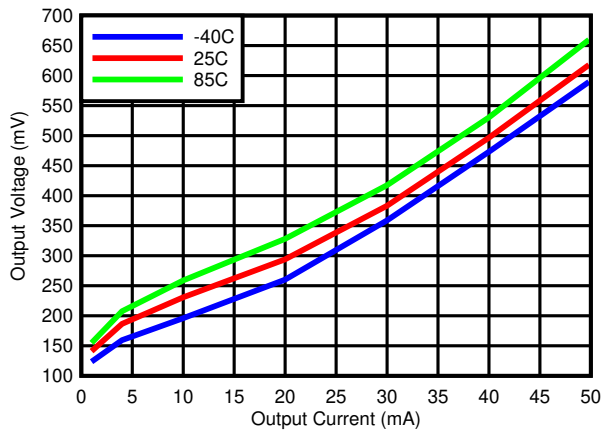
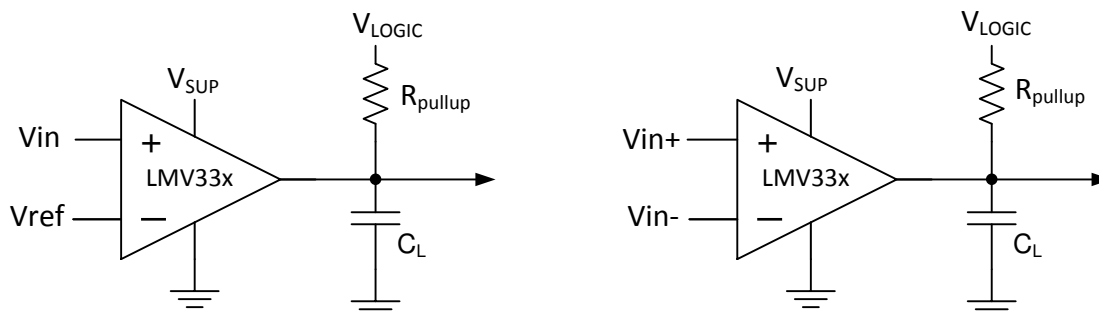

图 6-3. Output Voltage vs Output Current
图 8-1. Typical Application Schematic
Output current is determined by the pull-up resistance ( $R_{pullup}$ ) and  $V_{logic}$  voltage, refer to 图 8-1. The output current will produce a output low voltage ( $V_{OL}$ ) from the comparator. In which  $V_{OL}$  is proportional to the output current. Use 图 6-3 to determine  $V_{OL}$  based on the output current.
- $R_{CE}$  can be determine by taking the slope of 图 6-3 in it's linear region at the desired temperature, or by dividing the  $V_{OL}$  by  $I_{out}$